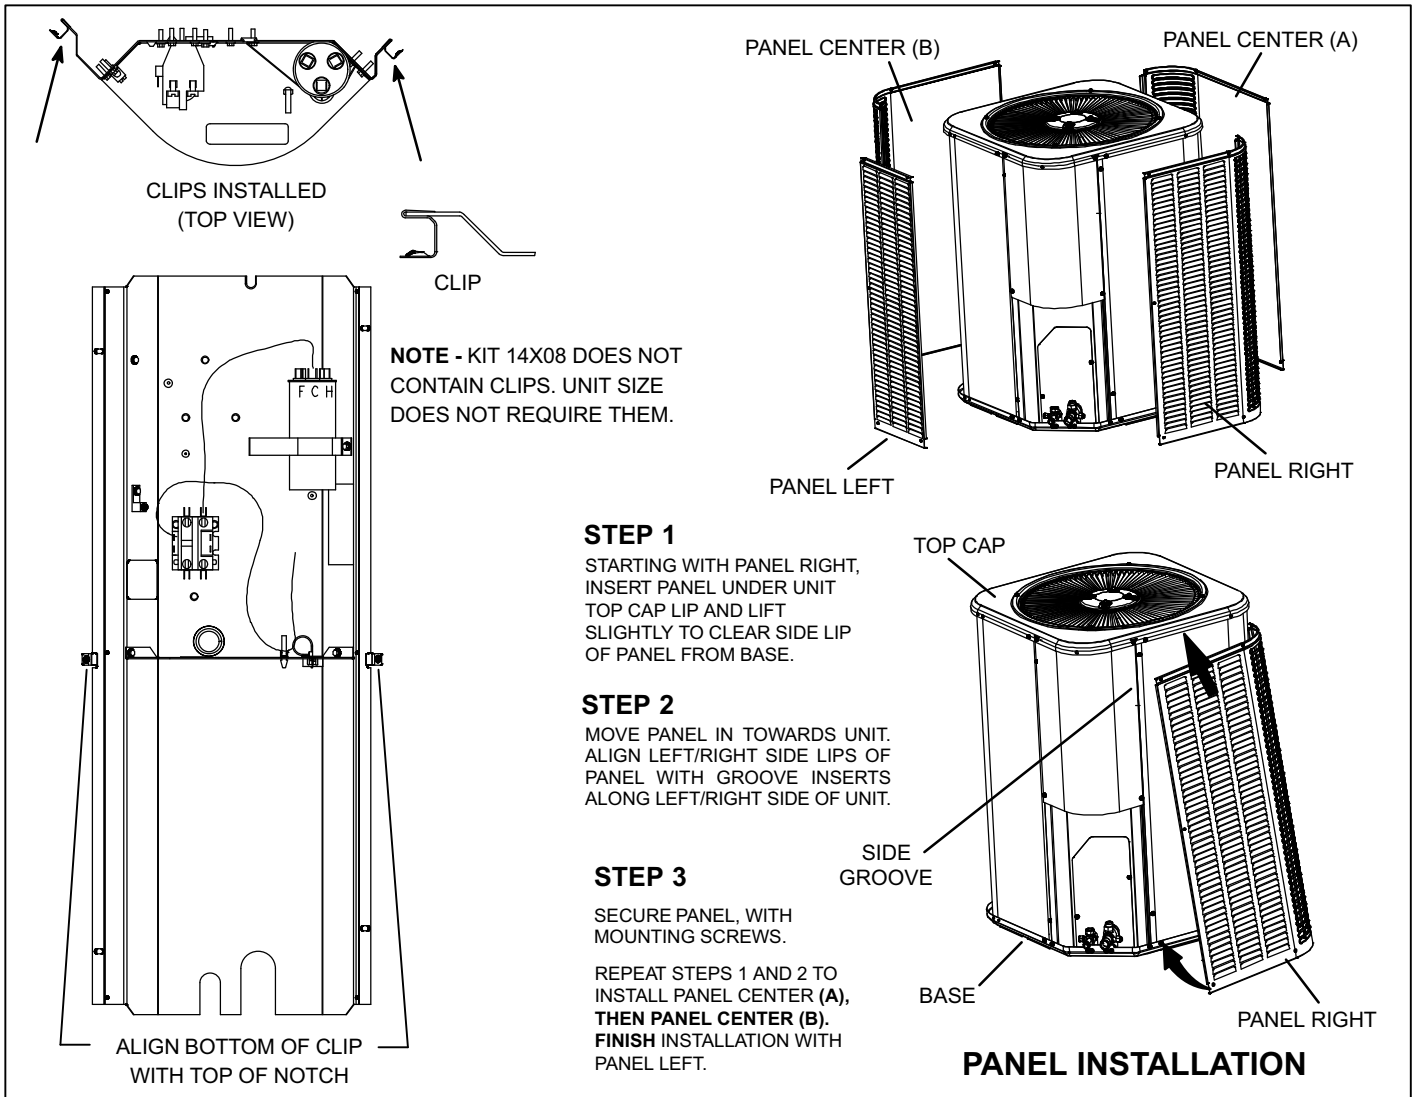

Figure 1. Installation of Clips and Louvered Panels
5. Install the two provided clips on the sides of the control box as shown in figure 1. (Kit 14X08 does not include or require clips.)
6. Install the louvered panels in order, as shown in figure 1, securing the panels with the provided screws. Panel right and panel left are secured to the clips installed in step 5.